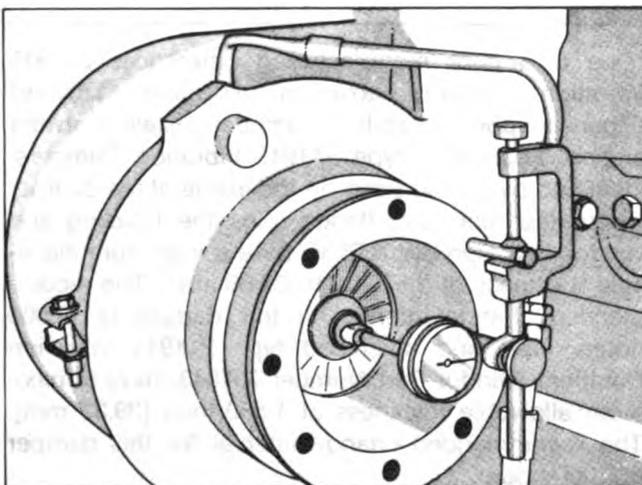

Fig. 2-66. (OM1065L). Check turbocharger bearing end clearance
Check bearing clearances. This can be done without removing the turbocharger from the engine, by using a dial indicator to indicate the end-play of the rotor shaft and a feeler gauge to indicate the radial clearance. Fig. 2-66.
2. Remove one capscrew from the front plate (compressor wheel end) and replace it with a long capscrew. Attach an indicator to the long capscrew and register the indicator point on the end of the rotor shaft. Push the shaft from end-to-end making note of the total indicator reading. Fig. 2-66. On T-50, ST-50 and VT-50 the end clearance should be 0.006 to 0.018 inch [0.15 to 0.46 mm].